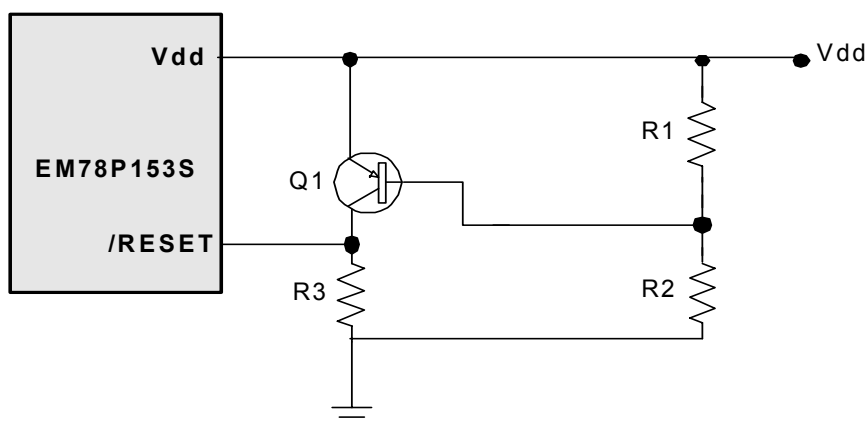

Fig.17 Circuit 2 for the residue voltage protection
The circuit shown in Fig 17 implements an external RC to produce the reset pulse. The pulse width (time constant) should be kept long enough for Vdd to reach minimum operation voltage. This circuit is used when the power supply has slow rise time. Because the current leakage from the /RESET pin is about $\pm 5\mu\text{A}$, it is recommended that R should not be great than 40 K. In this way, the voltage in pin /RESET will be held below 0.2V. The diode (D) acts as a short circuit at the moment of power down. The capacitor C, will discharged rapidly and fully. RI, the current-limited resistor, will prevent high current discharge or ESD (electrostatic discharge) from flowing to pin /RESET.